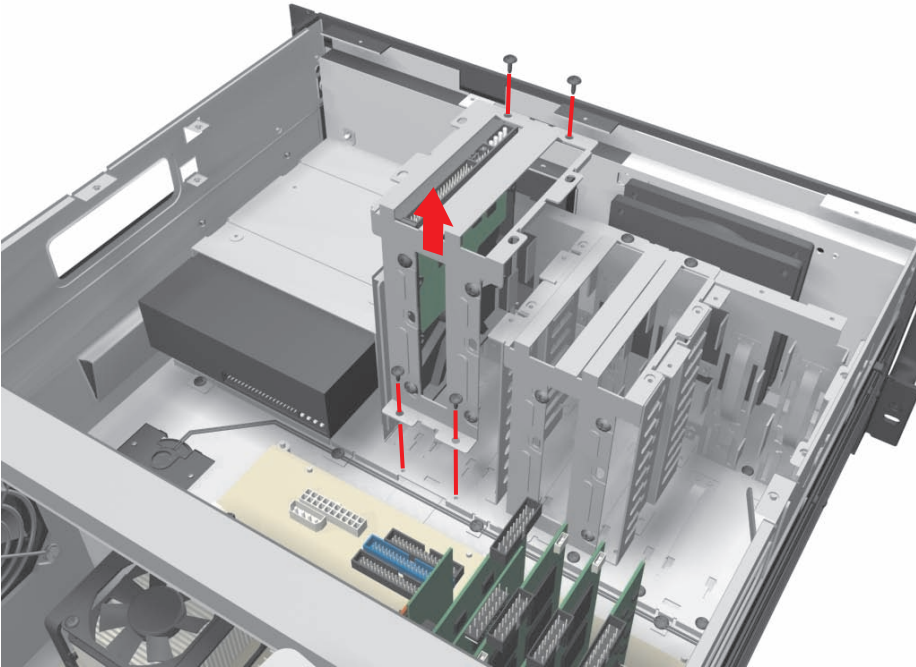

Figure 10. Removing Hard Drive Basket
- a. Using a Phillips-head screwdriver, unfasten and save the four screws that attach the drive basket to the chassis. Refer to Figure 10.